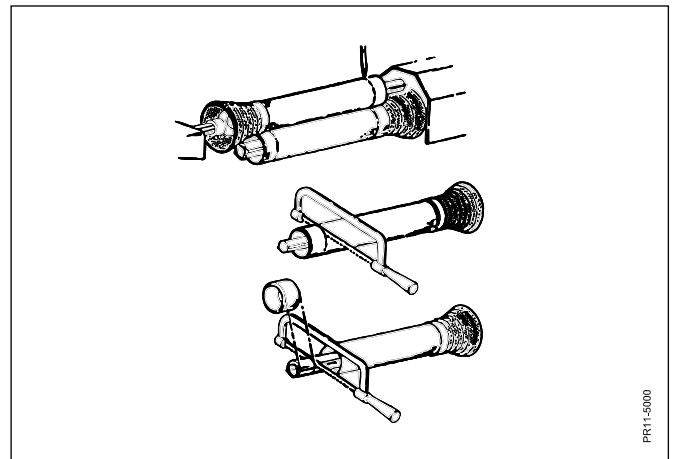

Fig. 2-8
**Fig. 2-8** Fasten the halves of the shaft to PTO and PIC, respectively, when these are right opposite each other with the machine in working position. (The longest distance on this machine). Hold the shaft ends parallel to each other and mark the wanted shortening, minimum 200 mm overlapping. Shorten all 4 tubes equally.